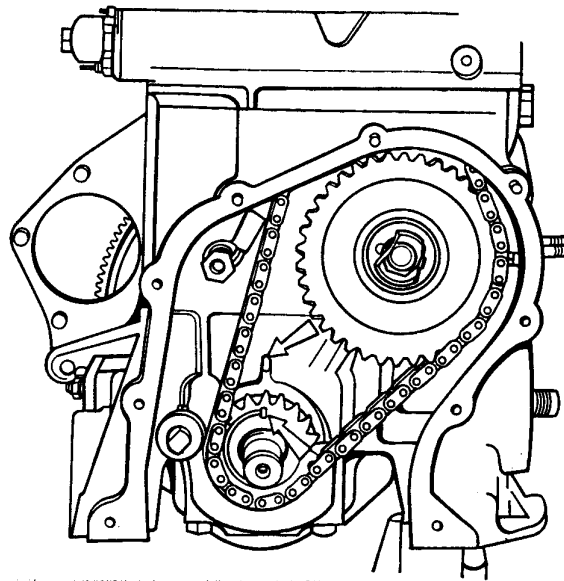
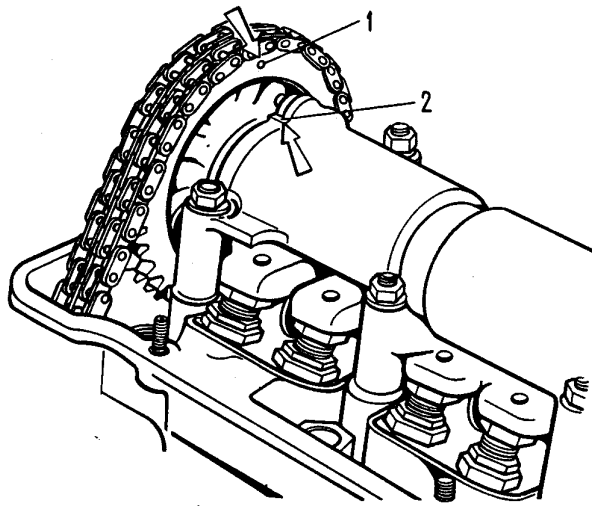

Fig. 2-17. Alignment of Timing Marks on Crankshaft Sprocket and on Cylinder Block
Fig. 2-19. Alignment of Timing Marks on Camshaft Sprocket and on Bearing Housing:
Turn the flywheel so that the mark on the crankshaft sprocket registers with the mark on the cylinder block (Fig. 2-17).
Install the sprocket on the camshaft assembled with the bearing housing and turn the shaft so that the mark on the sprocket faces the mark on the bearing housing (Fig. 2-19). Remove the sprocket and, without changing the position of the
- put the chain on the camshaft sprocket and move it into the drive space, seeing that the mark on the sprocket lines up with the mark on the bearing housing (Fig. 2-19). Do not tighten the sprocket bolt all the way home;
- turn the crankshaft two revolutions in its regular direction thereby ensuring the required chain tension; check to see that the marks on the sprockets are aligned with the marks on the cylinder block (Fig. 2-17) and on the bearing housing (Fig. 2-19);